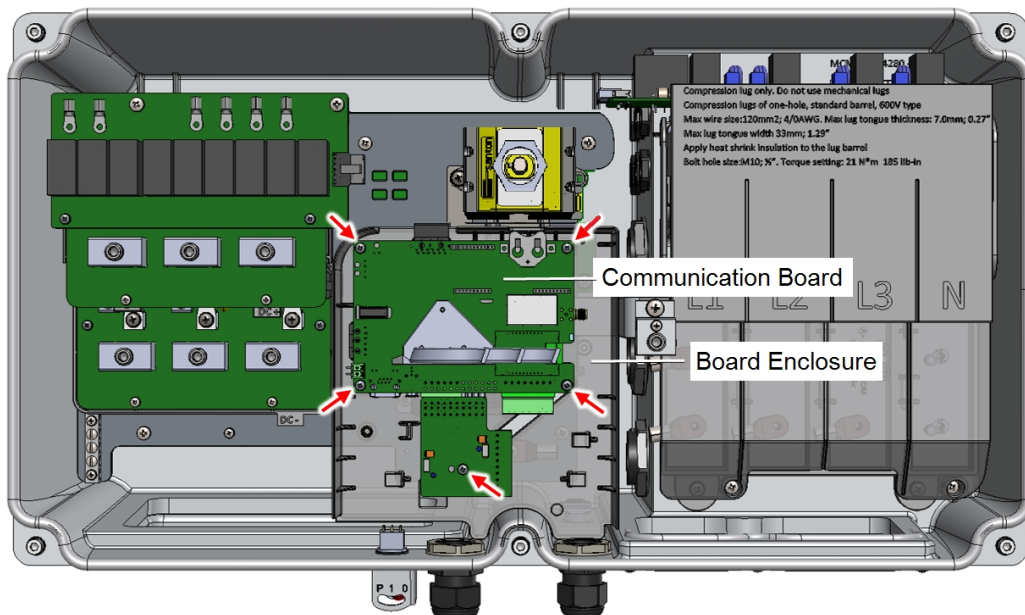

Figure 2: Removing the Communication Board and Board Enclosure
5. Position the communication board on the the standoffs and fasten the five screws with a torque of 1.3 N*m (0.96 lb*ft) (see Figure 2).